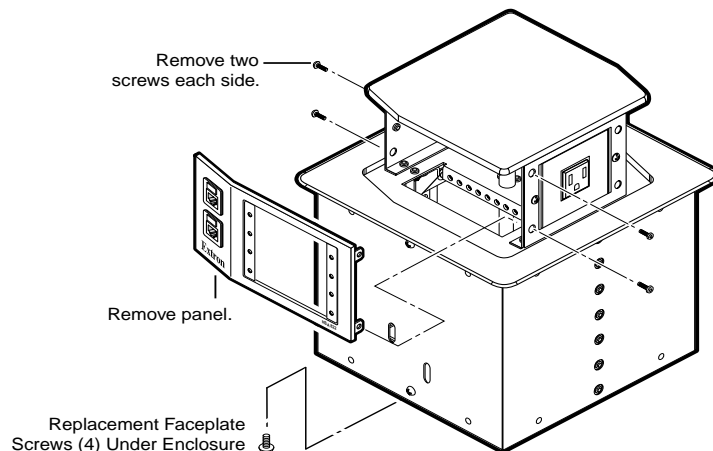

Figure 6. Removing the AAP Panel from an HSA 822
1. Remove the top and bottom screws on the right and left sides of the AAP panel (see figure 6). Retain the screws. Lift the panel away from the enclosure as far as the connected cables allow and then allow the panel to dangle, supported by its connected cables.